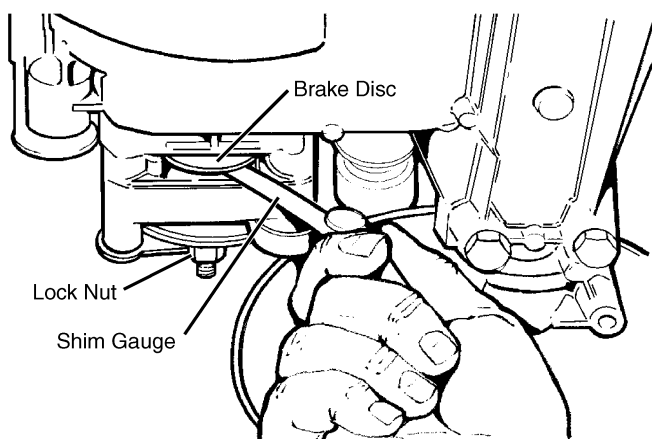

FIG. 27
- Insert a 0.010 in. (0.25 mm) shim gauge between the disc and friction puck (See FIG. 27). The shim should slide with slight interference.